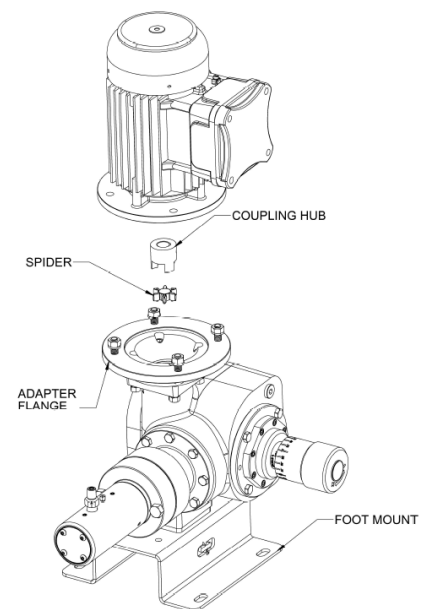

Figure 1
2. Place pump onto level mounting surface. The head should always be horizontal relative to ground with the discharge check valve vertical facing up. See Figure 1.